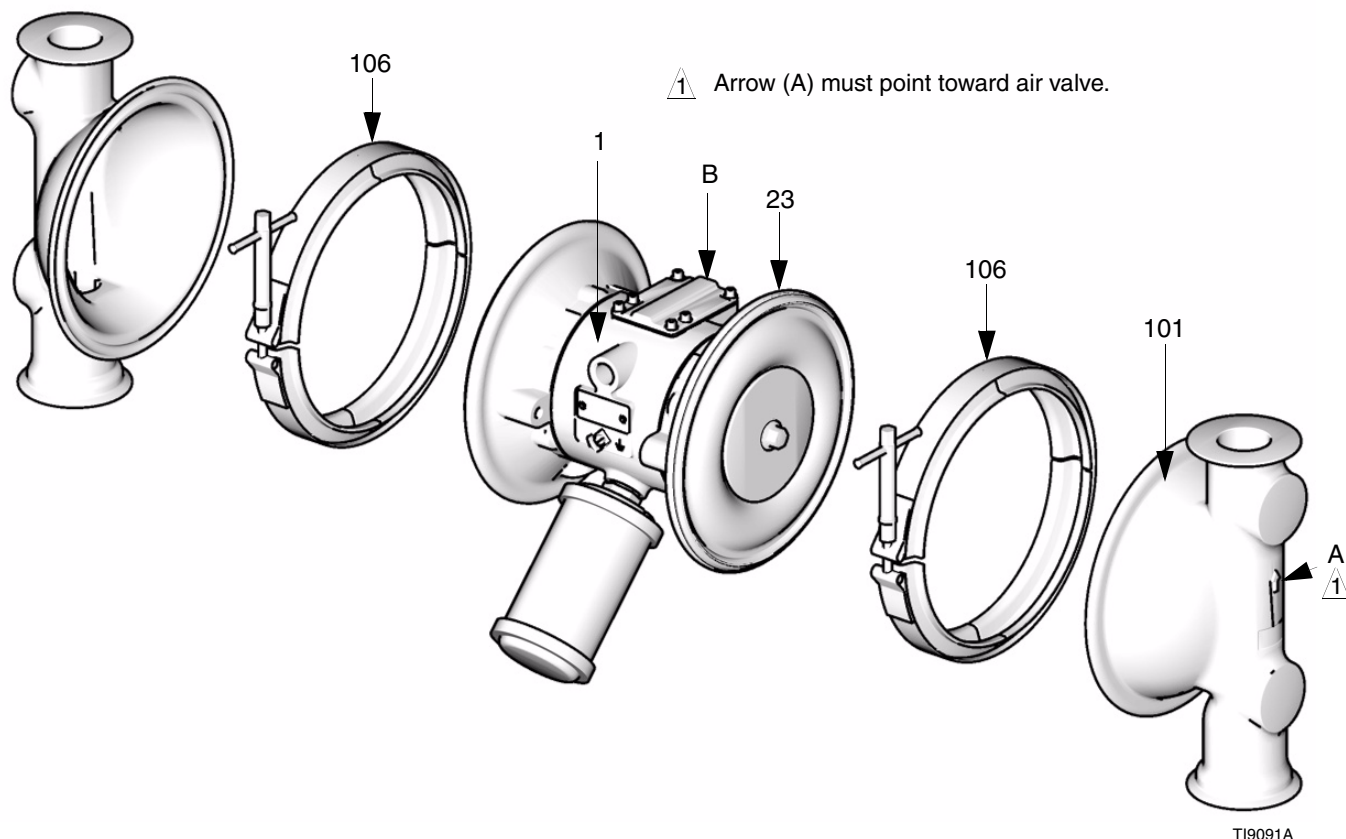
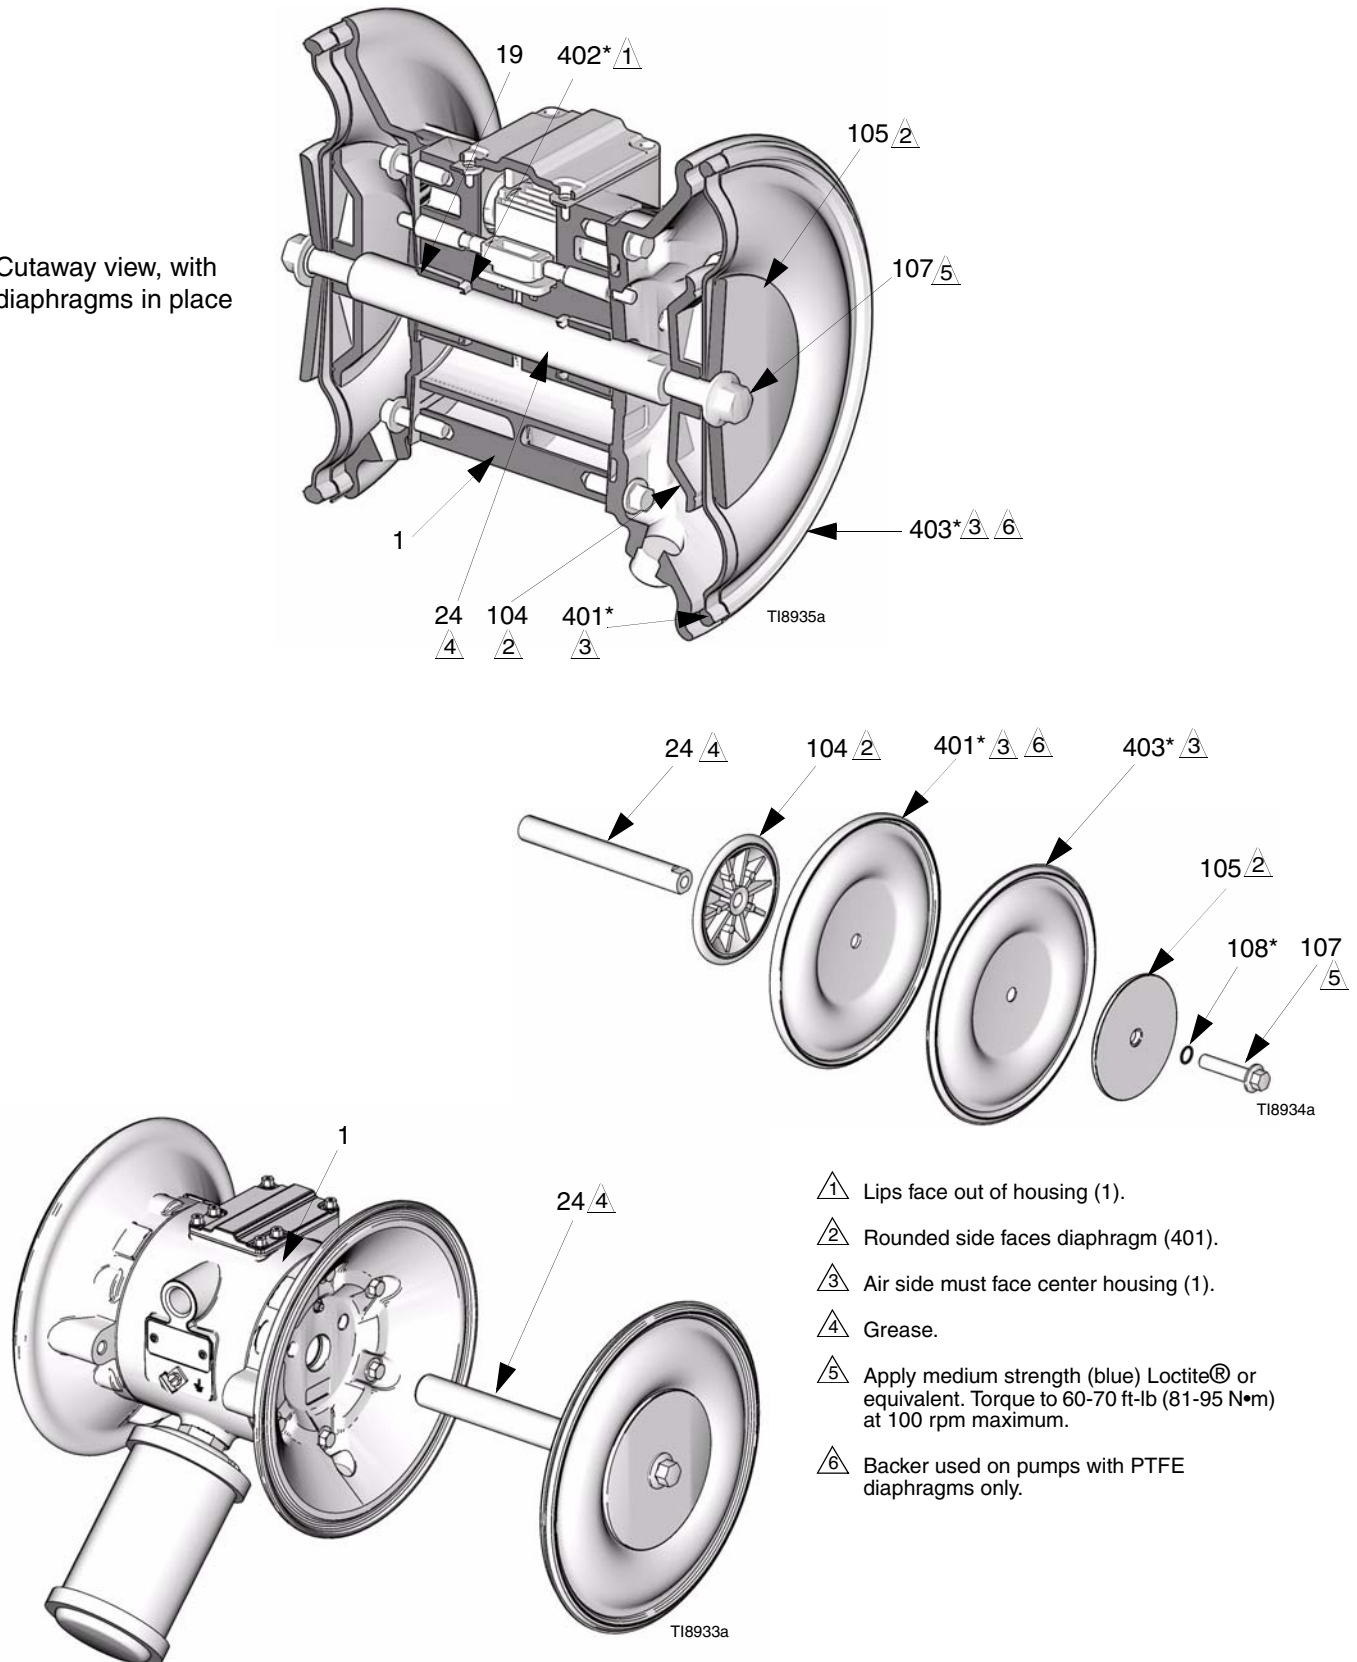

FIG. 10
FIG. 11
3. Remove the clamps (106) holding the fluid covers (101) to the air covers (23). Pull the fluid covers (101) off the pump. See FIG. 10.
4. Loosen but do not remove the diaphragm shaft bolts (107), using a 15 mm socket wrench on both bolts. See FIG. 11.
5. Unscrew one bolt from the diaphragm shaft (24) and remove the o-ring (108), fluid side diaphragm plate (105), diaphragm (403), backer (401) used only on PTFE models, and air side diaphragm plate (104). See FIG. 11.
6. Pull the other diaphragm assembly and the diaphragm shaft (24) out of the center housing (1). Hold the shaft flats with a 19 mm open end wrench, and remove the bolt (107) from the shaft. Disassemble the remaining diaphragm assembly.
7. Inspect the diaphragm shaft (24) for wear or scratches. If it is damaged, inspect the bearings (19) in place. If the bearings are damaged, refer to page 24.
8. Reach into the center housing (1) with an o-ring pick and hook the u-cup packings (402), then pull them out of the housing. This can be done with the bearings (19) in place.
- d. On PTFE models only, install the backer (401*) on the bolt. Make certain the side marked AIR SIDE faces the center housing (1).
- e. Install the air side diaphragm plate (104) so the rounded side faces the diaphragm (401). This plate is stamped with its part number.
- f. Apply medium-strength (blue) Loctite® or equivalent to the bolt (107) threads. Screw the bolt into the shaft (24) hand tight.
3. Grease the length and ends of the diaphragm shaft (24), and slide it through the housing (1).
5. Hold one shaft bolt (107) with a wrench and torque the other bolt to 60-70 ft-lb (81-95 N•m) at 100 rpm maximum.
6. Align the fluid covers (101) and the center housing (1) so the arrows (A) on the covers face the same direction as the air valve (B). Secure covers with the clamps. See FIG. 10.
1. Install the shaft u-cup packings (402*) so the lips face **out** of the housing (1). Lubricate the packings. See FIG. 11.
2. Install the diaphragm assembly on one end of the shaft (24) as follows:
- a. Install the o-ring (108*) on the shaft bolt (107).
- b. Install the fluid side diaphragm plate (105) on the bolt so the rounded side faces the diaphragm (401).
6. Remove the air cover gaskets (22). Always replace the gaskets with new ones.
7. Use a bearing puller to remove the diaphragm shaft bearings (19), air valve bearings (12) or pilot pin bearings (15). Do not remove undamaged bearings.
8. If you removed the diaphragm shaft bearings (19) reach into the center housing (1) with an o-ring pick and hook the u-cup packings (402), then pull them out of the housing. Inspect the packings. See FIG. 11.
1. If removed, install the shaft u-cup packings (402*) so the lips face **out** of the housing (1). See FIG. 11.
- 2 Press-fit bearings flush with surface of center housing (1)